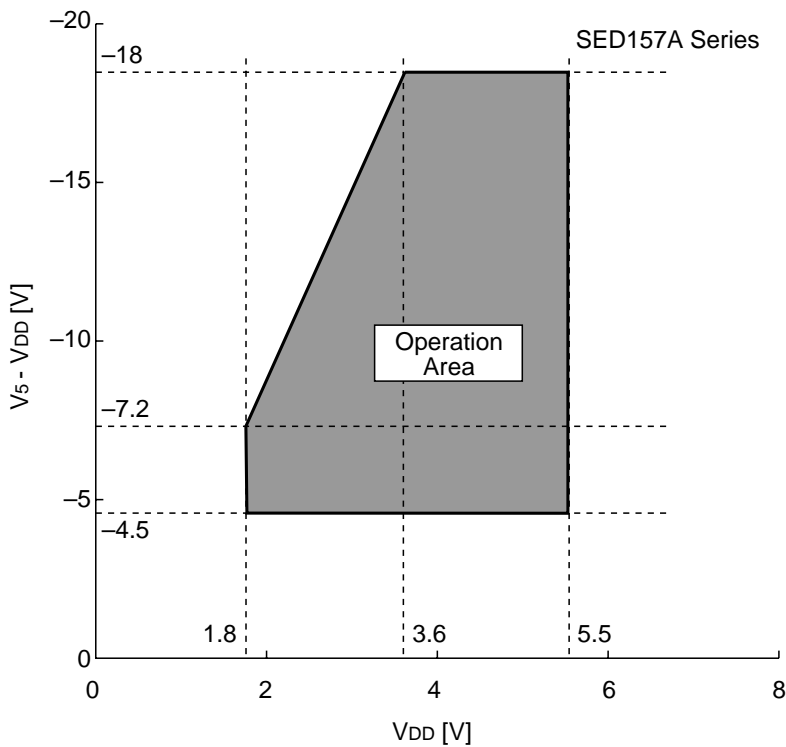

Fig. 27
- *2 For the V_{DD} and V_5 operating voltage ranges, see Fig. 27. These ranges are applied when using the external power supply.
- *3 A_0 , D_0 to D_5 , D_6 (SCL), D_7 (SI), \overline{RD} (E), \overline{WR} (R/W), $\overline{CS1}$, $CS2$, CLS , CL , FR , M/S , $C86$, P/S , \overline{DOF} , \overline{RES} , \overline{IRS} and \overline{HPM} pins
- *5 A_0 , \overline{RD} (E), \overline{WR} (R/W), $\overline{CS1}$, $CS2$, CLS , M/S , $C86$, P/S , \overline{RES} , \overline{IRS} and \overline{HPM} pins
- *6 Applied when D_0 to D_5 , D_6 (SCL), D_7 (SI), CL , FR , and \overline{DOF} pins are in the high impedance state
- *7 Resistance value when the 0.1 V voltage is applied between the output pin $SEGN$ or $COMn$ and power supply pins (V_1 , V_2 , V_3 , and V_4). Specified within the range of operating voltage (3)